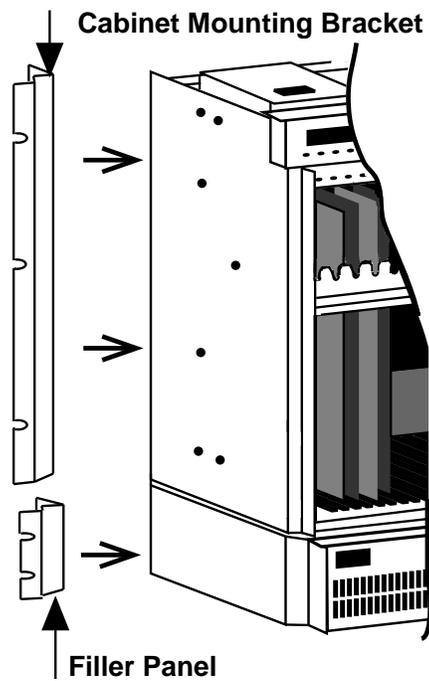

Figure 2-15. Installing Mounting Brackets onto the MAP/100C
7. Attach the two cabinet frame dress filler panels (A10070 and A10071) to the frame under the mounting brackets (Figure 2-15).
3. Locate and attach the left and right mounting ear brackets (A10036-A and A10037-A) to the side plate of the unit (Figure 2-15).